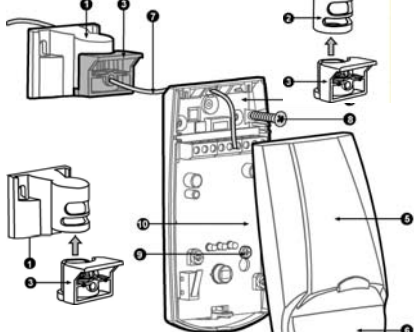

Fig. 2 Detector Installation
2. Remove the PC board by unscrewing the holding screw located on the board.(Fig.2 - 9)